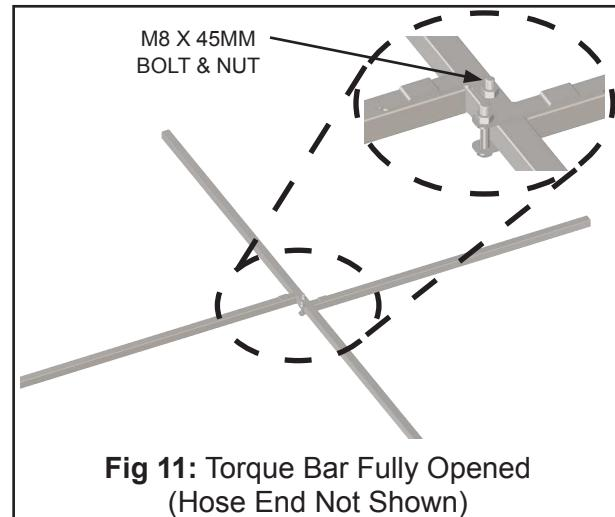

Fig 11: Torque Bar Fully Opened
STEP 3: Lower the folded Torque Bar Assembly and Hose through the hatch to the entrant. The entrant then needs to expand Torque Bar into the fully opened position, and install an M8 x 45mm bolt and nylock nut through the torque bar tab to secure the torque bar in the open position. **(See Figure 11)**